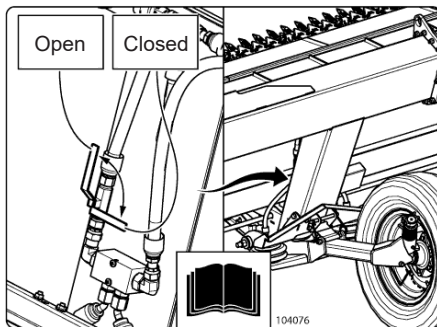

Fig. 10
4. Set header to RIGID mode. Raise header off the ground and pressurize to the correct psi for your header width as shown in the table below, close the gauge wheel isolation valves (see Fig. 10) then proceed to section 8 on page 10.
3. Close both gauge wheel isolation valves (see Fig. 10.)